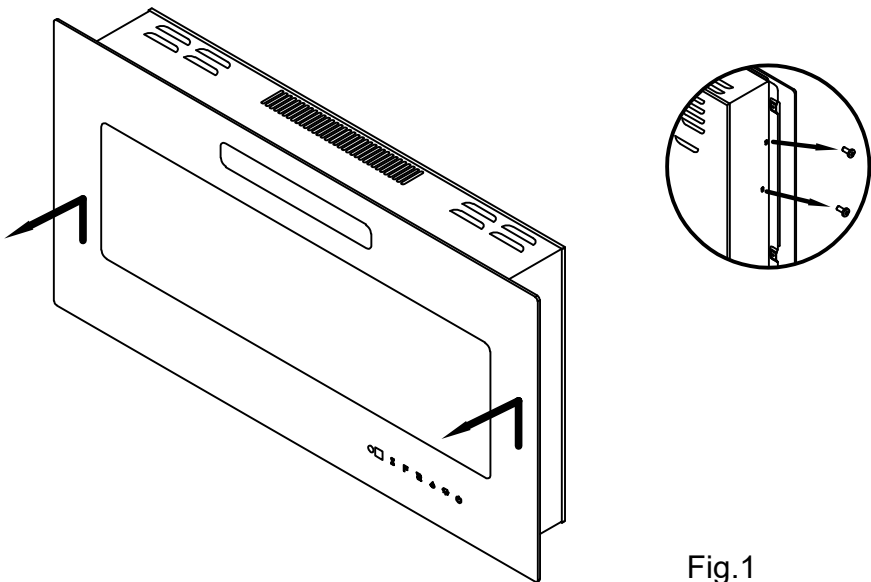
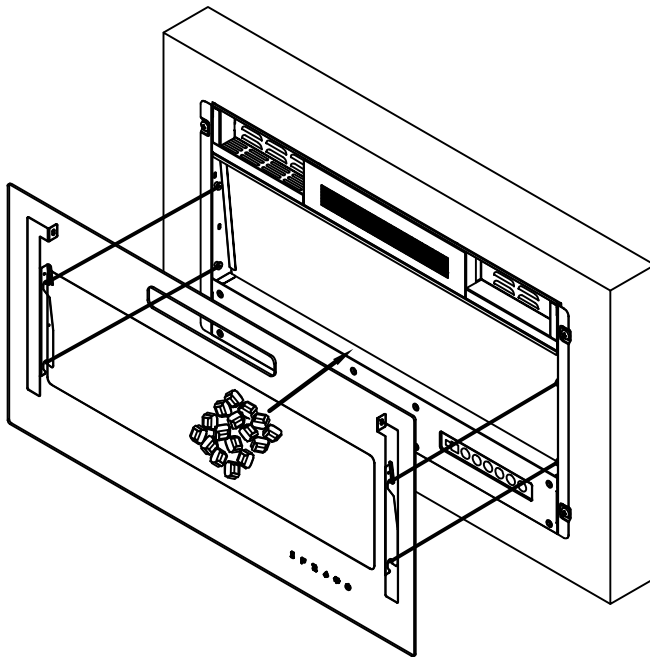

Fig.1
Fig.4
Installation (see Fig1~Fig4)
- Remove four silver screws from the sides of the heater, two screws on each side. Remove two screws from the front of the heater. Remove the tempered glass by lifting it from the lugs on the sides. see (Fig.1)
- Place the front glass surround over the front of the fire aligning the slots in the bracket at each side of the glass panel with the lugs on the sides of the fire ; See (Fig.4)